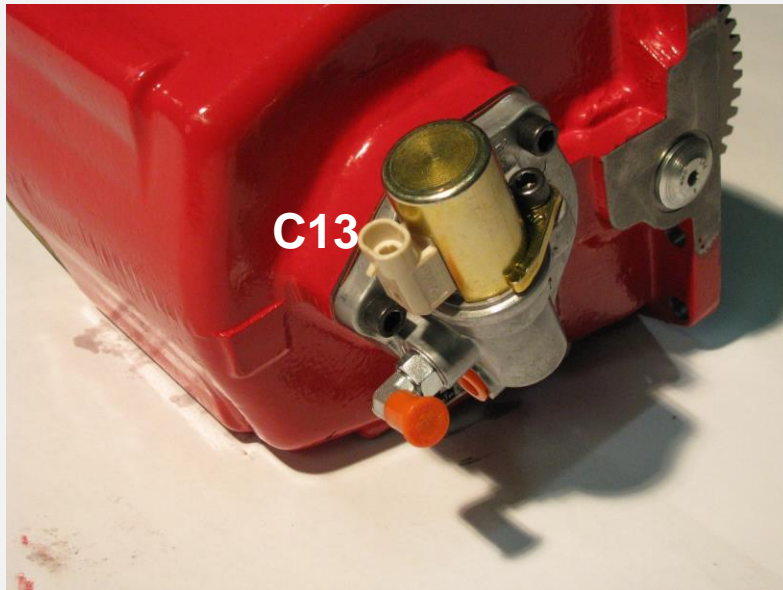

Figure 7.31: PTO Shifting Solenoid
29. Plug connector C13 into the PTO shifting solenoid (Figure 7.31).
1. Unplug PTO connection C13. See Figure 7.31.